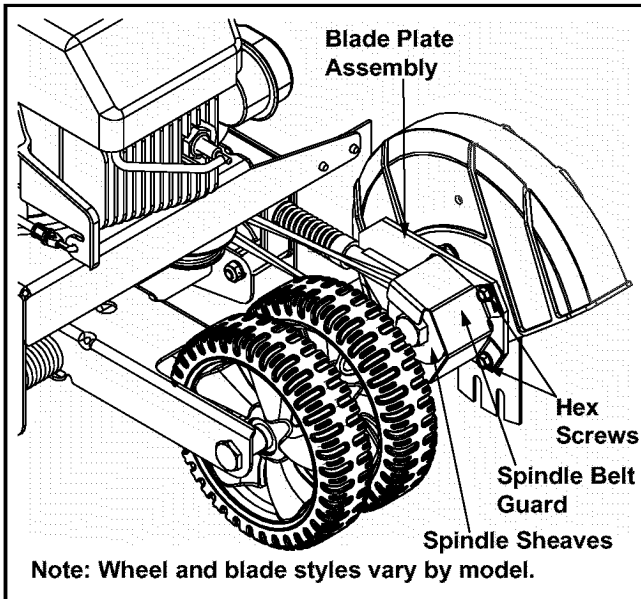

Figure 9
- Remove the spindle belt guard by removing the two self tapping screws which secure it to the blade plate assembly. See Figure 9.
- Remove the spindle belt guard by removing the two self tapping screws which secure it to the blade plate assembly. Refer to Figure 9.
- Remove the spindle belt guard by removing the two self-tapping screws which secure it to the blade plate assembly. See Figure 9.